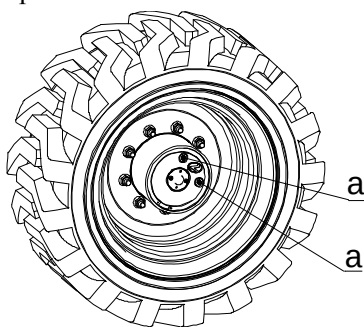

Figure 3-14 Oiling plug
- Drive the rough terrain scissor lift so that any one of the wheels' oiling holes is at the highest position and the other is at a horizontal position, as shown in Figure 3-14, a is the oiling plug.